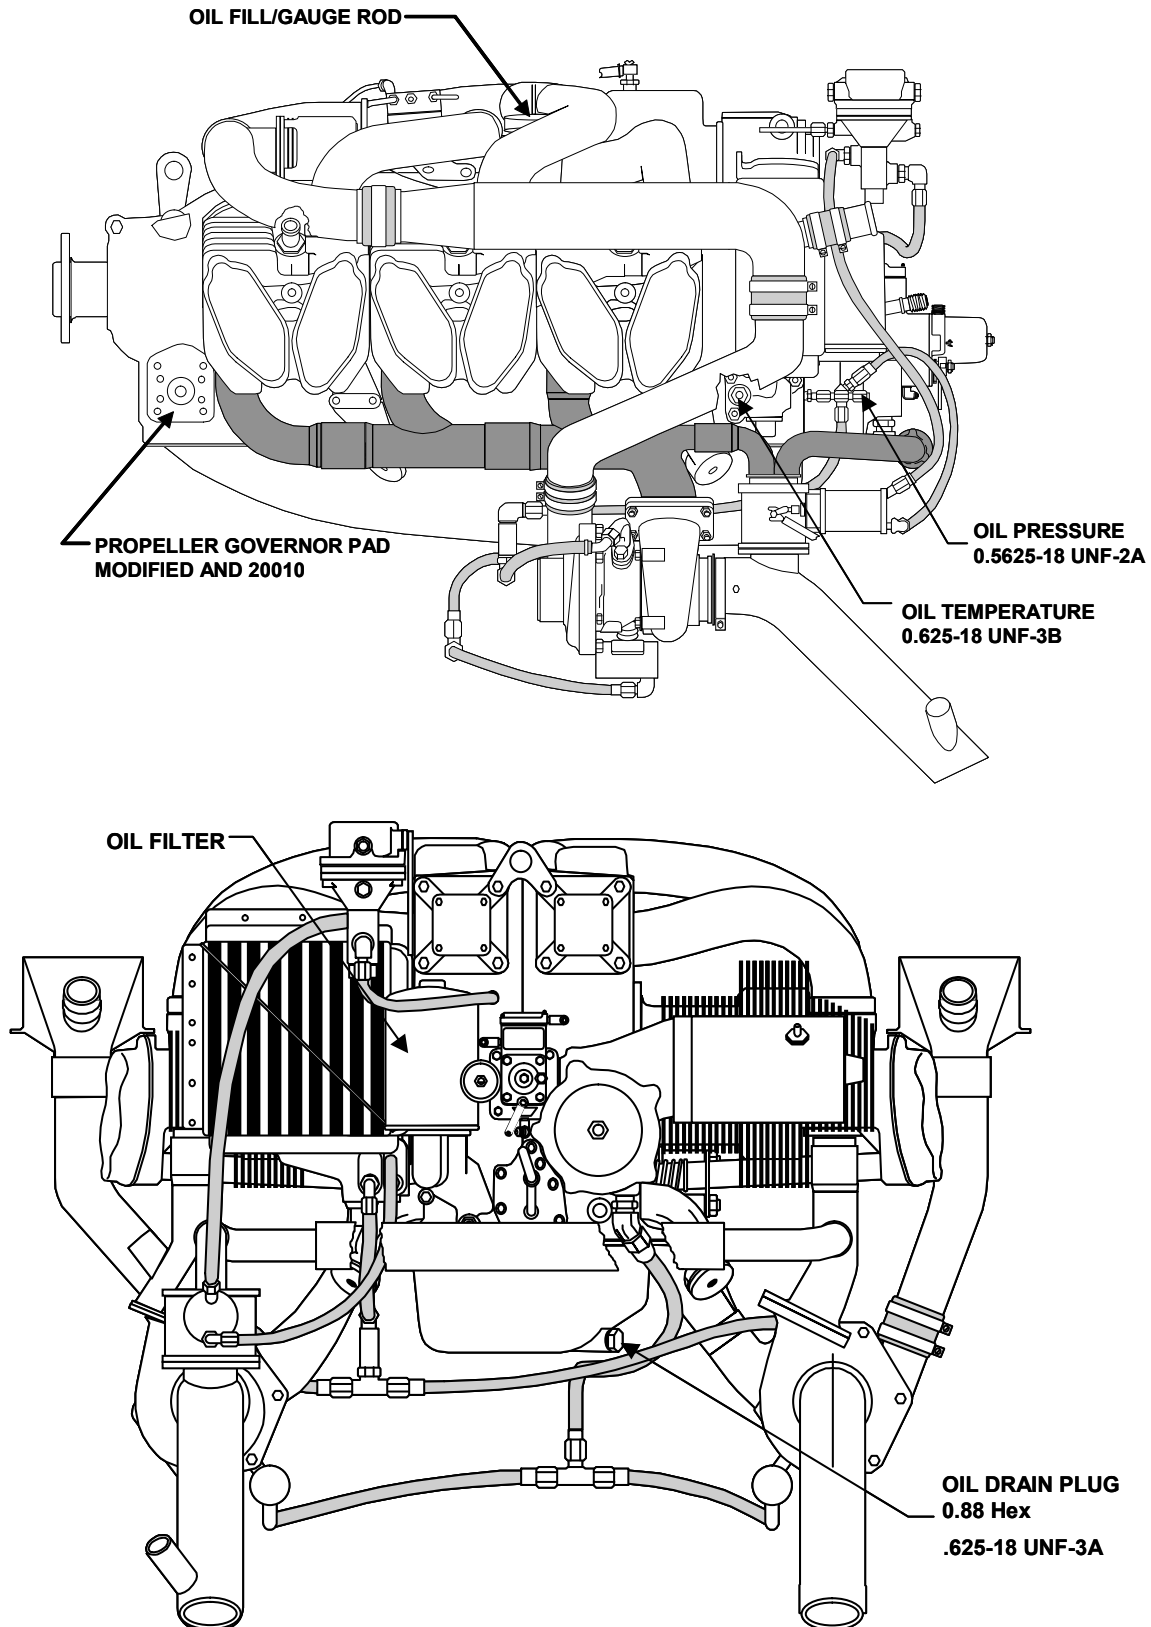

Figure 6-22. TSIO-550 Oil Servicing Points (typical)
1. Place a catch basin, approved for collecting oil, beneath the oil sump. Remove the oil sump drain plug (Figure 6-7 through Figure 6-22), or quick drain fitting, and drain the oil into the catch basin.
- a. Remove the oil filter (Figure 6-8 through Figure 6-22). Cut the oil filter in two parts using an Oil Filter Can Cutter (P/N CT-923 (Table 2-1, “Special Tools List”)).